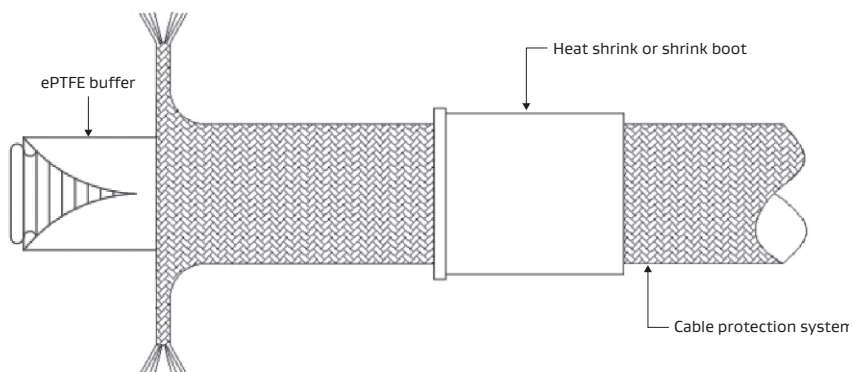

Figure 10: Unwrapping the white ePTFE buffer
5. Using tweezers or fingers, unwrap the white ePTFE buffer (Figure 10).